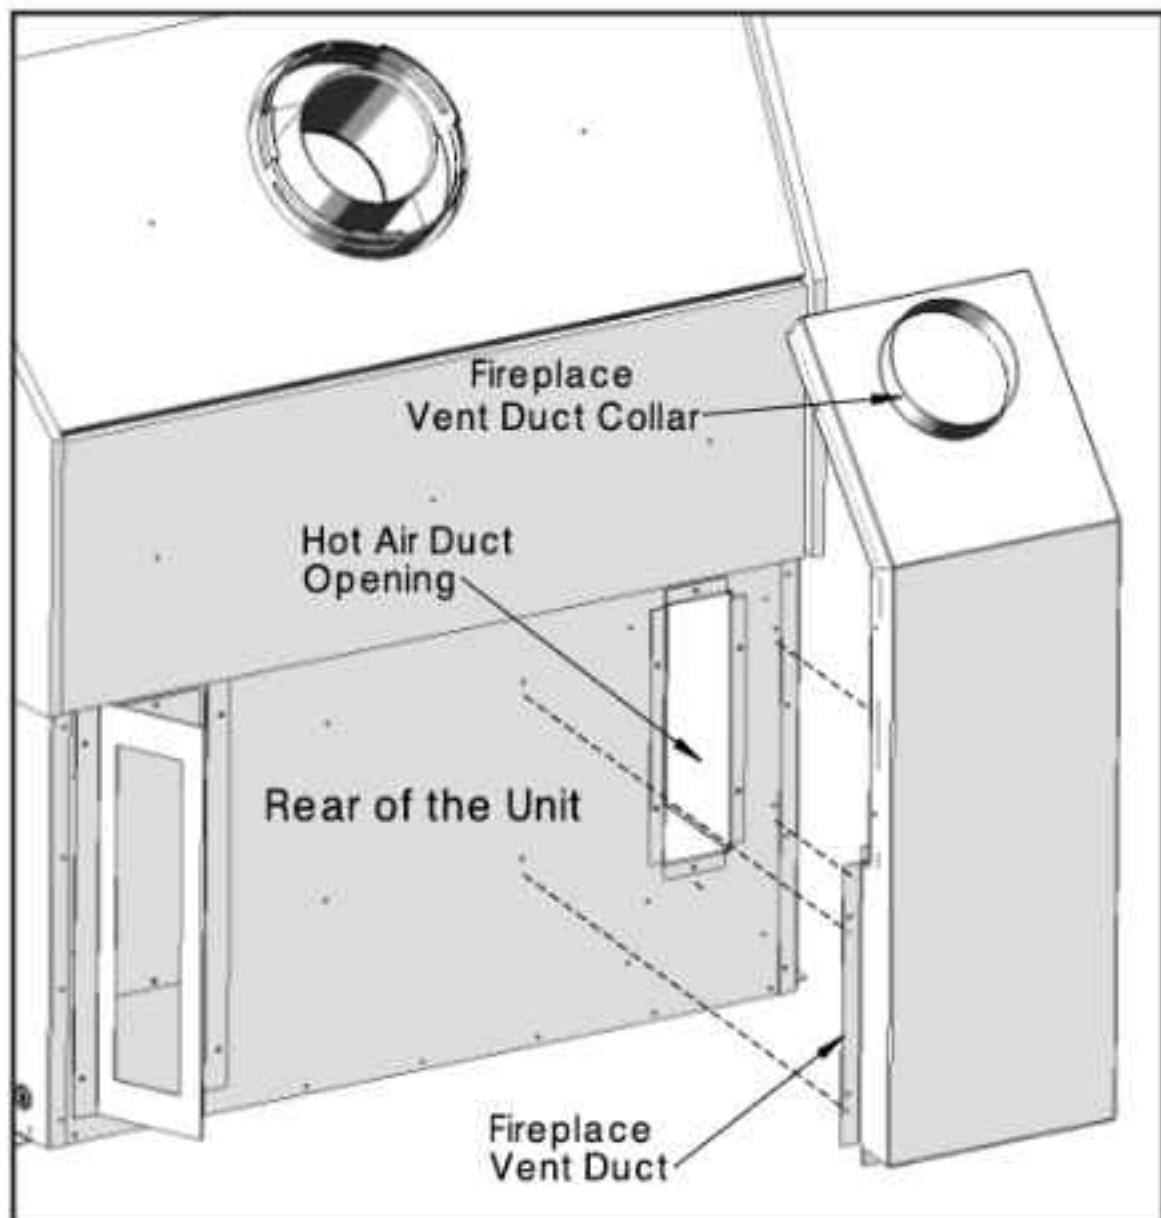

Figure 4: Install the vent duct kit.
3. Cover the hot air duct opening with the Fireplace Vent Duct (refer to Figure 4). Push the vent duct kit against the back of the fireplace and secure it in place with five (5)  $\frac{1}{4}$ " HWH self drilling screws.